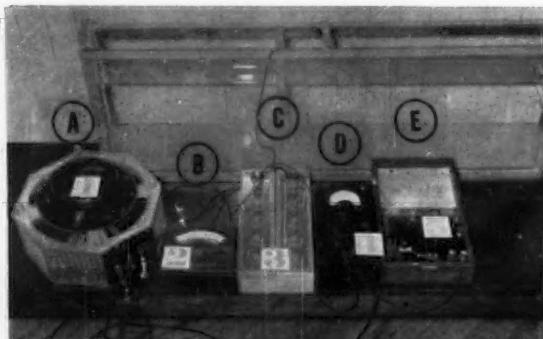
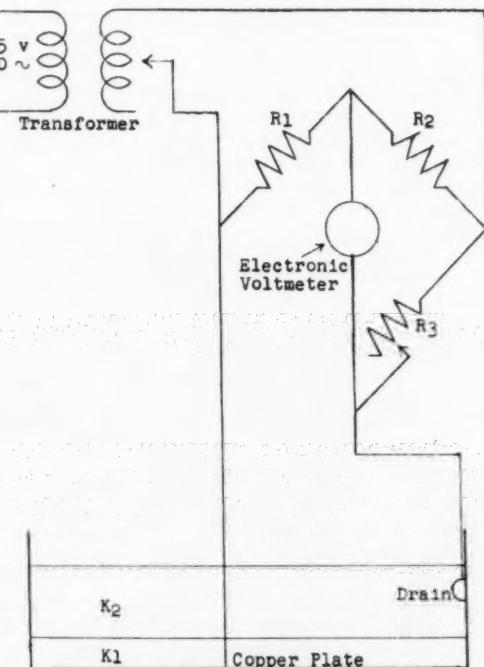

Fig. 1 Tank model and electrical equipment. (A) transformer, (B) voltmeter, (C) resistances R_1 and R_2 , (D) electronic voltmeter, (E) variable resistance, R_3
Fig. 2 Circuit diagram and model
The tile drainage model and electrical equipment are shown in Fig. 1. The sides and ends of the tank model were made with lucite, a nonconductor. The scale of the model was 4 to 1. Because of symmetry, the tank and drain were made one-half models. The 4-in. draintile was represented by a chrome plated half-cylinder shown at the right end of the tank in Fig. 1. The soil surface was represented by a copper sheet in the bottom of the tank.
The resistance of the model was measured by balancing the Wheatstone bridge circuit shown in Fig. 2. The instruments shown in Fig. 1 are (A) Superior Electric Co. powerstat variable autotransformer, (B) Weston a-c voltmeter, (C) two Heath decade resistors, 10,000 ohms, (D) Ballan-